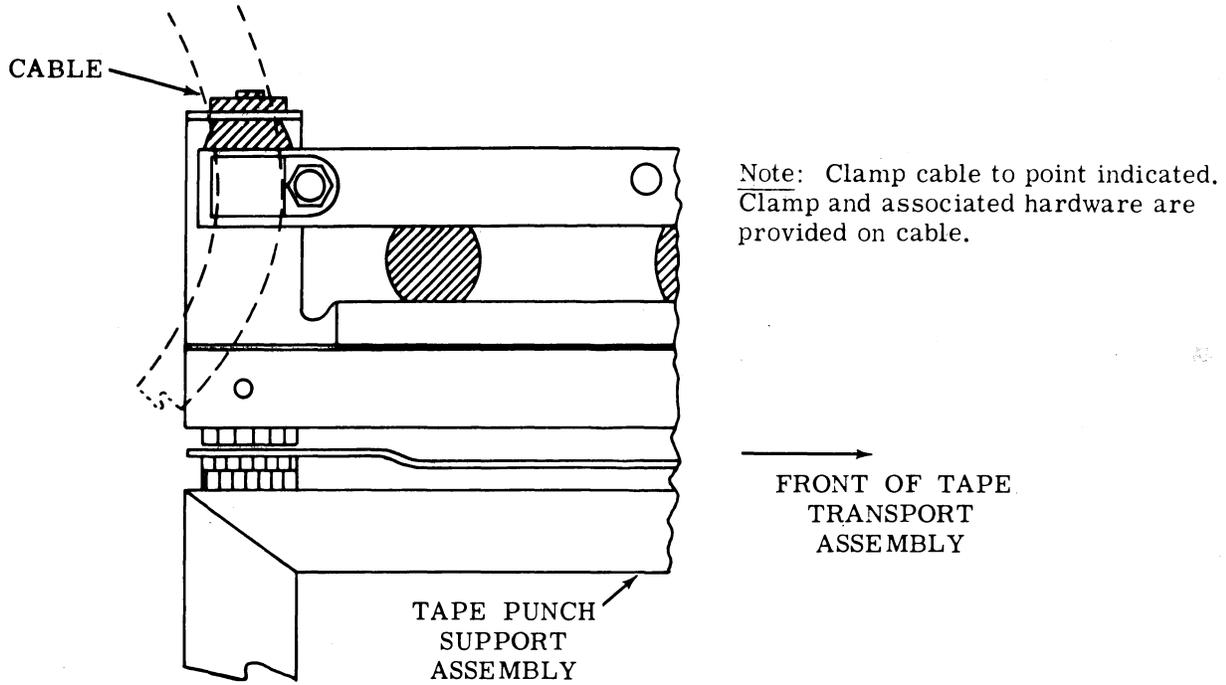

Figure 11 - Cable Installation
2.20 Plug the cable connector labeled PM1 into the punch unit receptacle and screw it on tightly. Clamp this cable to the punch unit support assembly as illustrated in Figure 11. Make sure the tape transport assembly is fully forward and that the cable does not bend sharply between the clamp point and the receptacle. Sliding the transport assembly back and forth should give no indication of cable interference with transport motion.